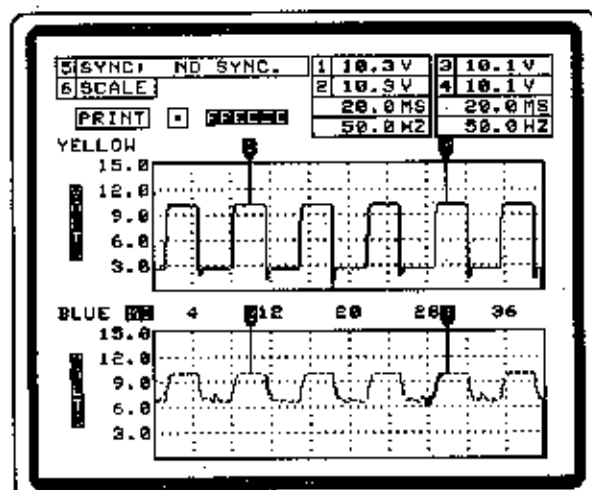

Figure 72
7. Change the format or freeze the pattern as needed. Refer to "Change Format" and "Freeze and Flags" sections (see Figure 72).